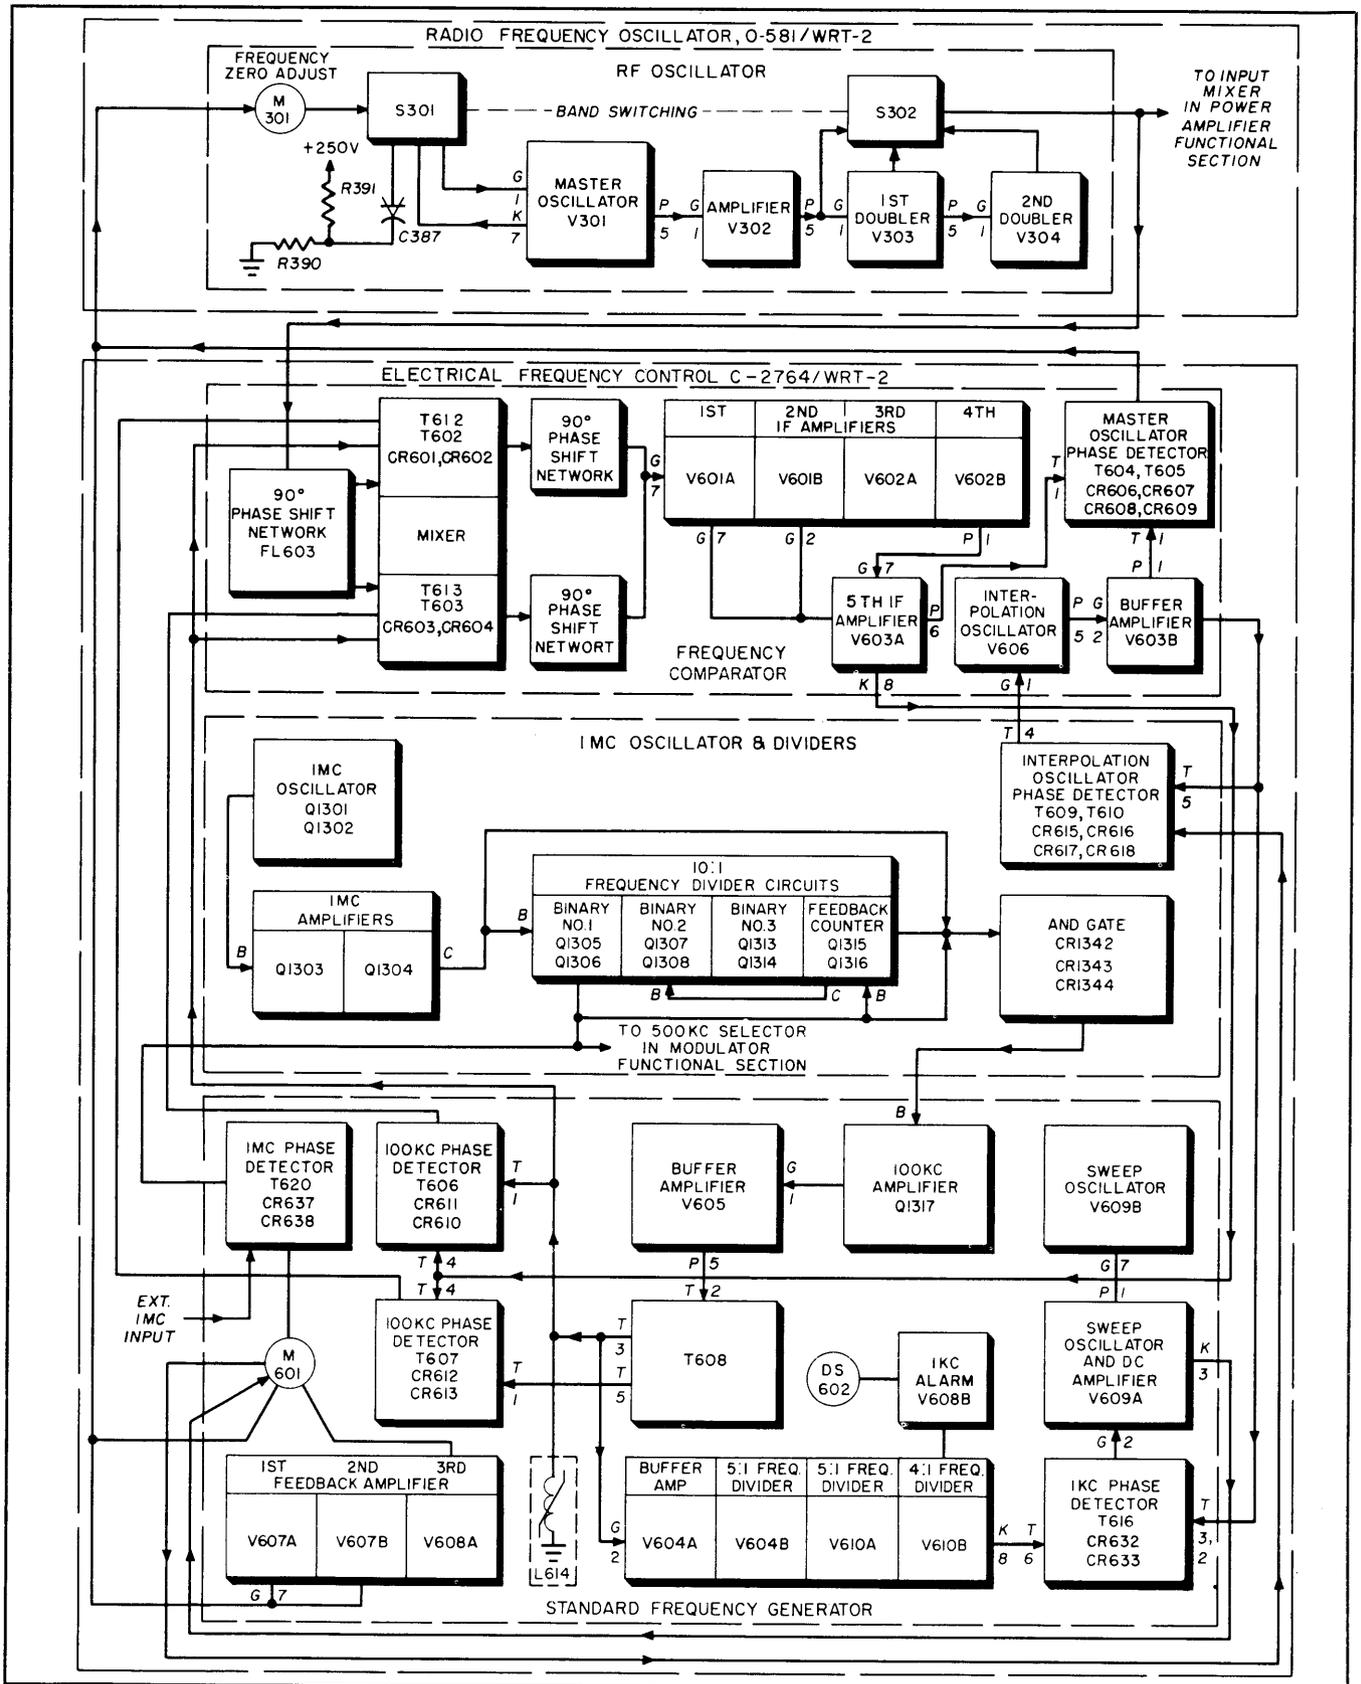

Figure 4-2. RF Generating Section, Functional Block Diagram
(14) In order to keep the frequency control loop as stable and rapid-acting as possible, it is necessary to keep the total a-c loop gain approximately constant. However, at higher operating frequencies a given d-c control signal to voltage sensitive capacitor C387 produces a greater amount of frequency correction. In order to overcome the resultant great change in sensitivity, feedback path number two is used to provide an input impedance to the feedback amplifiers which is about one-tenth the resistance of the r-f oscillator. In addition, a divider circuit in the r-f oscillator reduces the feedback signal as the frequency is increased. The circuits of feedback path number two effectively slow down the correction response as operating frequency is increased.
(15) Feedback path number three provides an automatic searching function for initial lock-in. This feedback is regenerative, and is effective only at low frequencies. With the system locked in, any voltage change at the output of the low-pass filter changes the frequency of the master oscillator, which in turn generates a control voltage that opposes the initial change. Thus, a very low source impedance is provided at the output of the phase detector and low-pass filter which renders feedback path number three ineffective. However, with the system unlocked, the low impedance is not present and the amplifier oscillates at approximately two cps, sweeping the frequency of the master oscillator until it generates the proper frequency and locks in.
(16) As stated in paragraph 4-2a(4) the stability of the interpolation oscillator is also controlled by a one-kc, lock-in circuit. The control is accomplished by comparing the output of the interpolation oscillator with a one k-c crystal stabilized reference signal and developing a correction voltage. For this purpose the 100-kc pulse signal, derived from the one-megacycle crystal oscillator and the subsequent 10:1 frequency divider circuits, is applied to buffer amplifier V604A as shown in figure 4-2. The 100-kc signal is coupled out at cathode 8 of V604A and fed to a 5:1 frequency divider circuit consisting of V604B and associated components. The output of this divider circuit is a 20-kc signal which is further divided by a second 5:1 frequency divider circuit consisting of V610A and associated components. The 4-kc output signal from V610A is fed to the last divider stage consisting of 4:1 frequency divider V610B. The one-kc signal from V610B is delivered to a one-kc phase detector circuit consisting of trans-